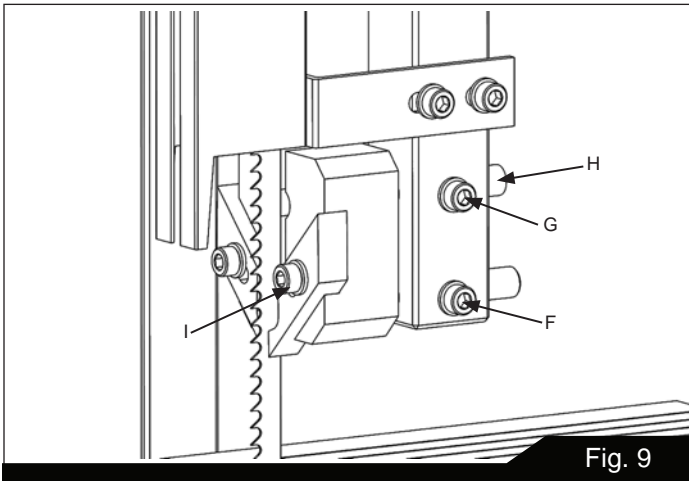

Fig. 9
2. Loosen screw (F, Figure 9) and slide blade guide assembly away from blade until it stops.
3. Loosen screw (G, Figure 9). Slide blade stop (H, Figure 9) toward blade until a gap of 1/32" remains. Tighten screw (G, Figure 9).
4. Slide blade guide assembly toward blade until blade guides are just behind the gullets as in Figure 9. Tighten screw (F, Figure 9).
6. Loosen two hex cap screws (I, Figure 9) and adjust each finger toward the blade. They should not touch the blade. Adjust for 0.010" clearance on either side.
7. Tighten two hex cap screws (I, Figure 9) once proper adjustment has been made.